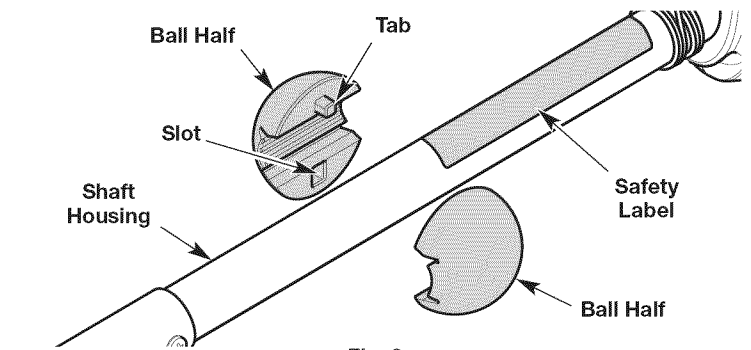

Fig. 2
1. Place a ball half on each side of the shaft housing (Fig. 2). Align each tab with its corresponding slot on the opposite ball half (Fig. 2). Hold the two halves together. Make sure the ball is positioned beyond the end of the safety label (Fig. 2).